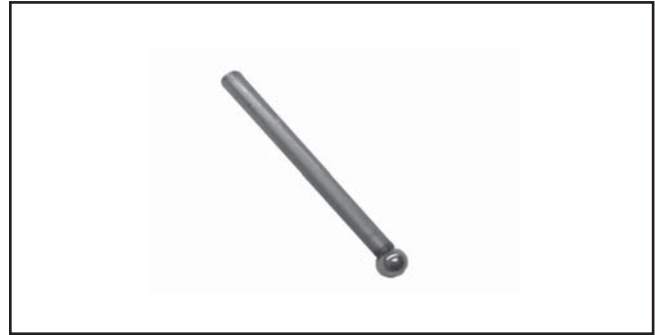

Figure 11-34. Push Rod Tool.
1. Bleed the hydraulic lifters of internal oil so the plunger in the lifter can be depressed by hand. Use an old cutoff push rod mounted in a drill press, arbor press, or vice, and slowly apply pressure **two or three times** to bleed the lifters. See Figure 11-34. If a vice is used in bleeding the lifters, be sure to install protective coverings over the jaws to avoid damage to the base of the lifter(s).